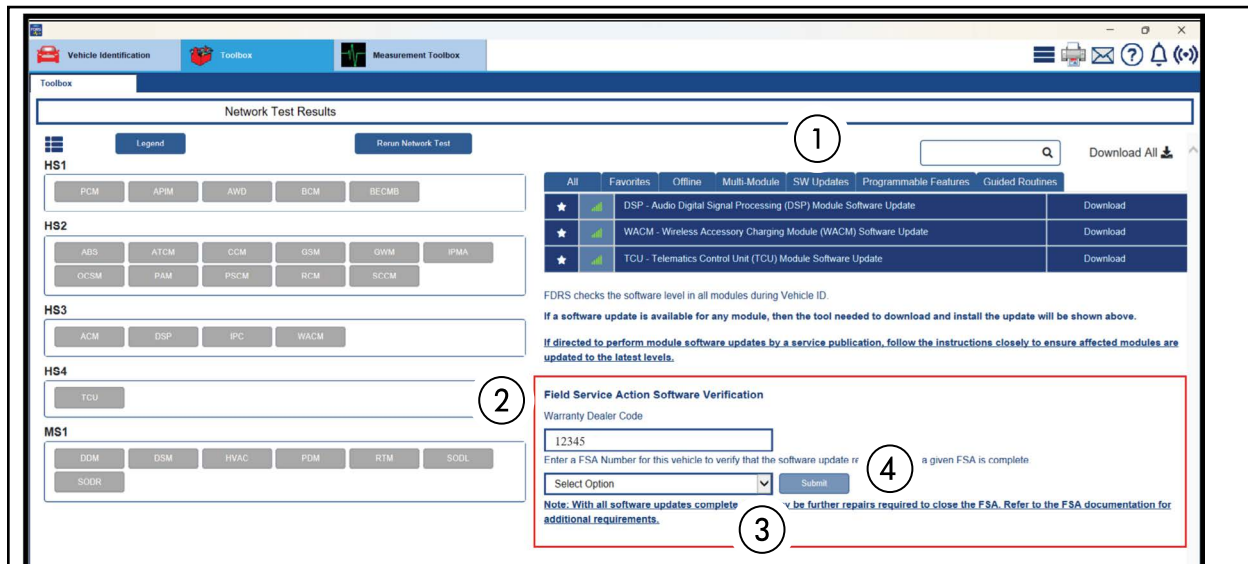

FIGURE 9
15. Select the **SW Updates** tab (1). See Figure 9.
16. **Warranty Dealer Code** (2) - Change the displayed PA code as necessary. See Figure 9.
17. Select the **FSA** (3) from the drop-down menu. See Figure 9.
18. Select **Submit** (4). See Figure 9.